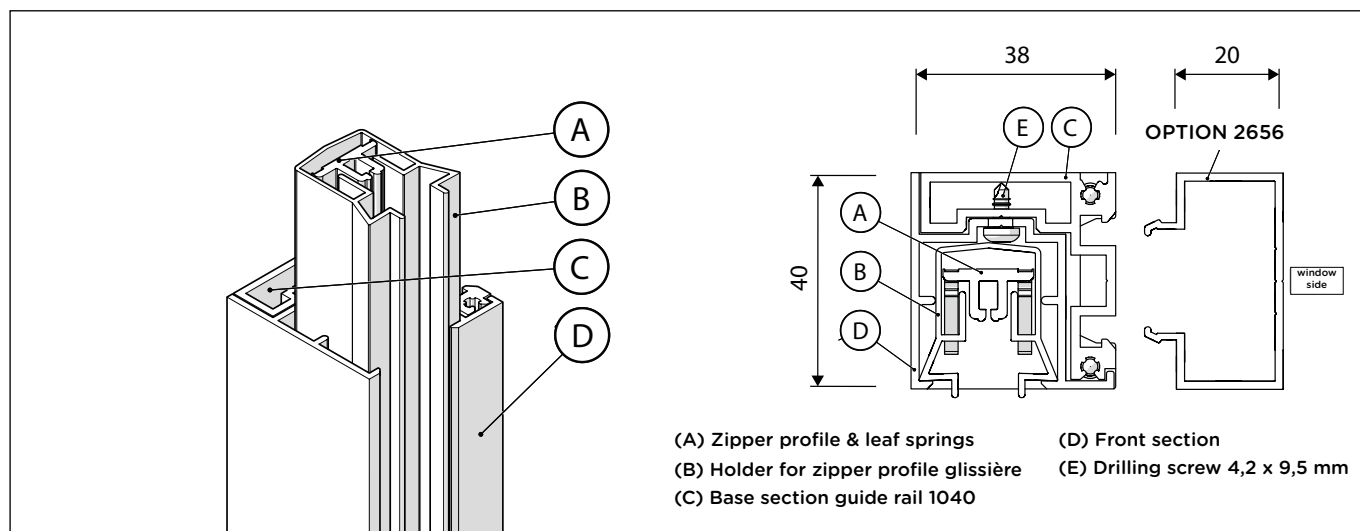

Fig. 7b: General structure and cross-section of the conductor 1040
The complete wide 1040 guide rails are made up of a base section (C), a front section (D) and a holder (B) with zipper profile (A), and at the bottom of the base section of each guide rail an aluminium end cap. The front section is fixed into the base section of the guide rail by the drilling screw (see figure 7b). The holder and the zipper profile can only be inserted when the front section is fixed. This is because the holder and the zipper profile are 35 mm longer than the guide rail.